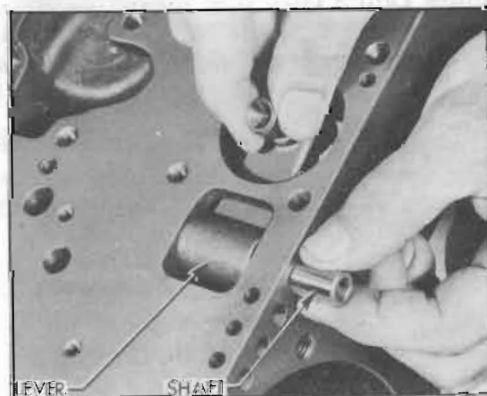

Figure 4-137—Installing Low Band Operating Lever and Shaft
1. Install the low band operating lever and shaft. Strut shoulder of lever must be toward inside of case and tapped end of shaft must be outward. See figure 4-137.